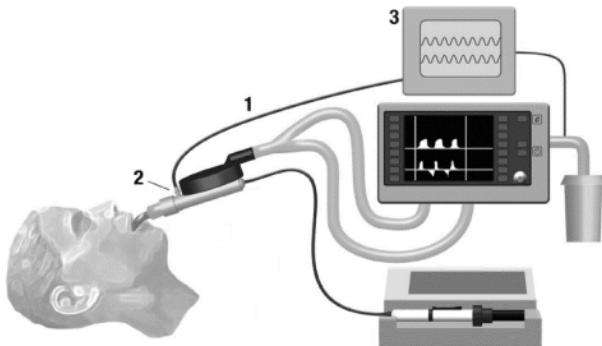

Figure 1
1. Connect the Gas Sampling Line (1) to the Sedaonda ACD gas monitor sampling port (2) as shown in Figure 1. Rotate the Luer connector clockwise for a secure fit to ensure that there is no leakage of gases at the connection point.
2. Connect the Gas Sampling Line (1) to the respiratory gas monitor (3). Rotate the Luer connector clockwise for a secure fit to ensure that there is no leakage of gases at the connection point.